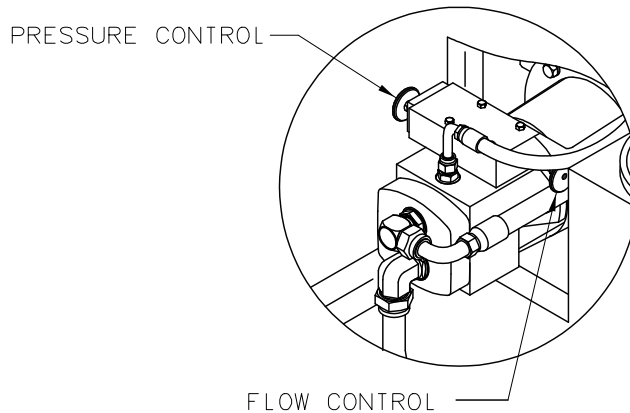

FIGURE 6.3.5 – Hydraulic Pump Controls
- Pump Control Access.....See Figure 6.3.5 – Hydraulic Pump Controls.